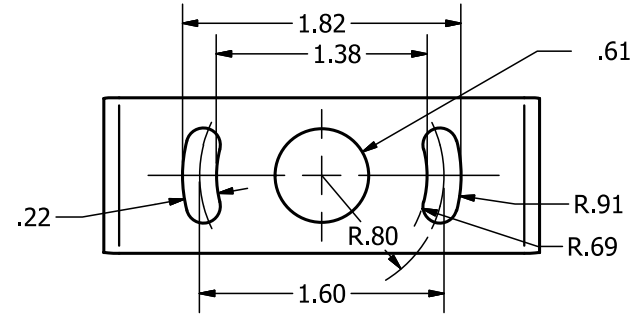

FIGURE 2: CAMERA MOUNTING HOLE PATTERN (DIMENSIONS: INCHES)
- Using the camera mounting bracket as a guide, use a 3/16 drill bit to drill four screw holes into the vehicle. Be sure to clear any obstacles (e.g. electrical wiring), etc. before drilling holes. See FIGURE 2. Use a 5/8 drill bit to drill a camera cable hole into the vehicle close to camera mounting bracket. See FIGURE 1.